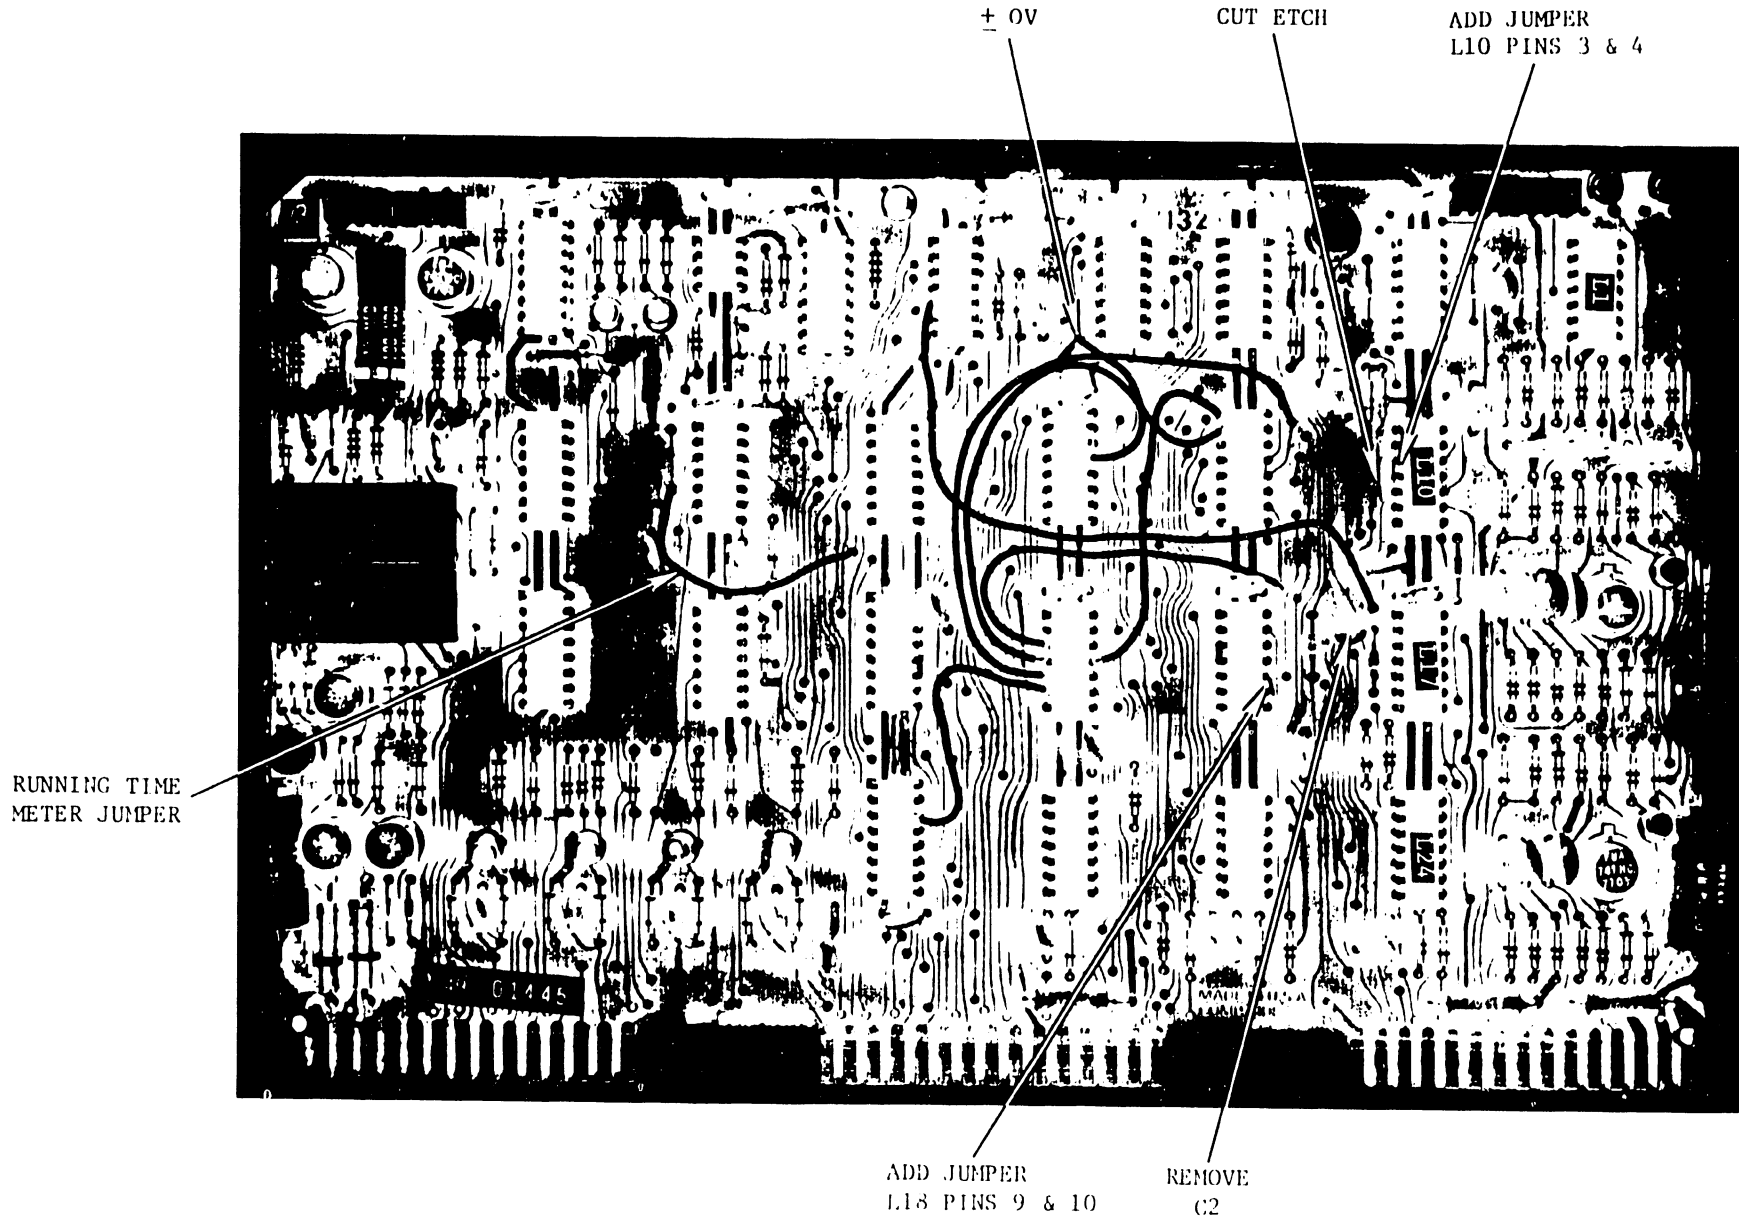
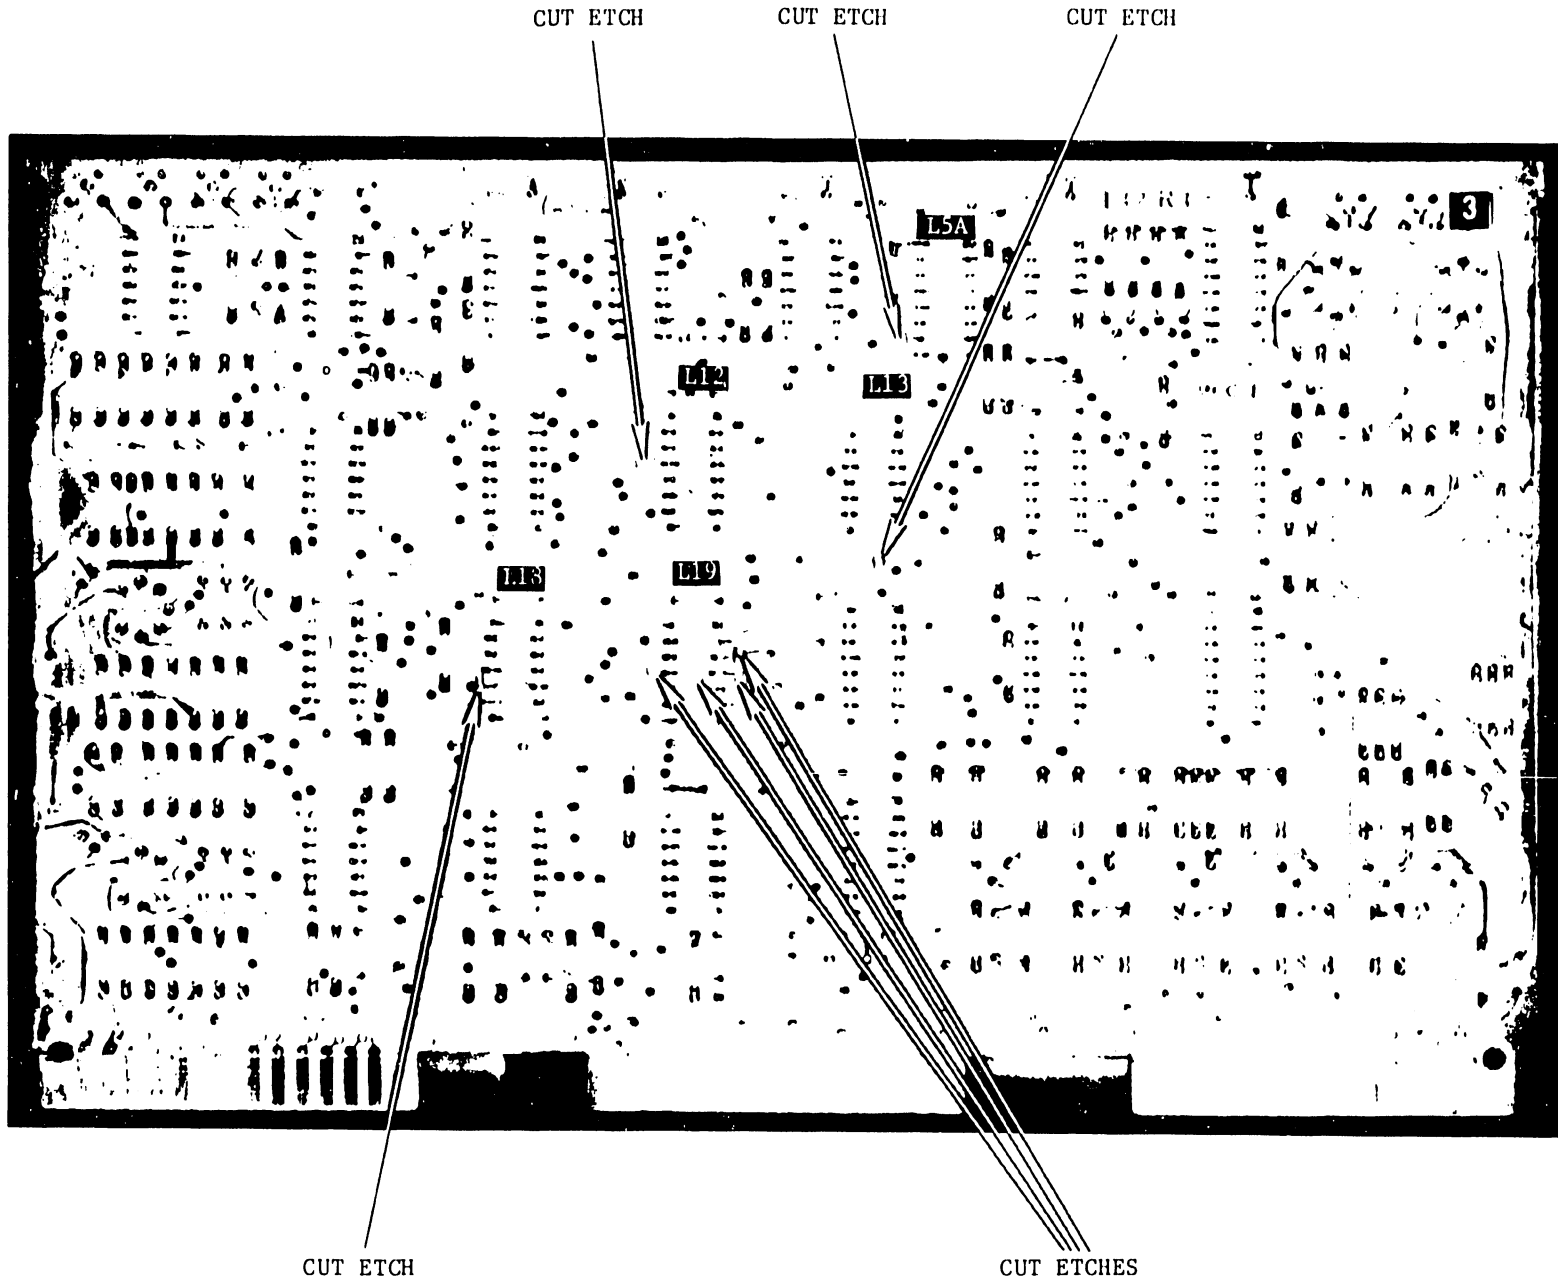

FIGURE 2 7132 PCB
FIGURE 3 7132 PCB
a. On the component side of the board: See Figure 2.
(1) Remove the 150 pf capacitor C2, located to the left of L17 pin 1.
(2) Cut the etch between L17 pin 6 and L10 pin 4. Make this cut close to L10 pin 4.
b. On the non-component side of the board, cut the following etches. See Figure 3.
(1) Between L19 pin 6 and L5 pin 5. Be sure that the running time meter jumper between L5 pin 5 and L14 pin 5 remains intact.
- (2) Between L11 pin 4 and L19 pin 4. Make this cut close to L19 pin 4.
- (3) Between L11 pin 9 and L19 pin 5. Make this cut close to L19 pin 5.
- (4) Between L11 pin 1 and L19 pin 3. Make this cut close to L19 pin 3.
- (5) Between L11 pin 10 and L19 pin 11. Make this cut close to L19 pin 11.
- (6) Between L11 pin 7 and L12 pin 13. Make this cut close to L12 pin 13.
- (7) Between L27 pin 14 and L5A pin 10. Make this cut close to L5A pin 10.
- (8) Between L11 pin 7 and L18 pin 10. Make this cut close to L18 pin 10.
c. On the component side of the board, add the following jumper wires. The correct installation of these jumpers is shown in Figure 2.
- (1) From L19 pin 3 to L11 pin 10.
- (2) From L19 pin 4 to L11 pin 2.
- (3) From L19 pin 5 to L11 pin 12.
- (4) From L19 pin 6 to L27 pin 14.
- (5) From L19 pin 11 to L11 pin 1.
- (6) From L12 pin 13 to +0 volts.
- (7) From L5 pin 5 to L17 pin 2.
- (8) From L10 pin 3 to L10 pin 4.
- (9) From L18 pin 9 to L18 pin 10.